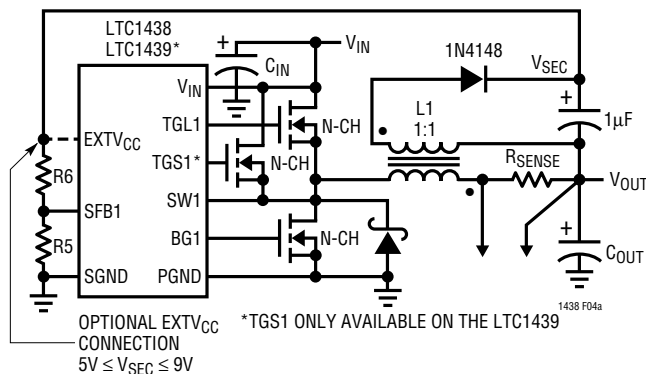
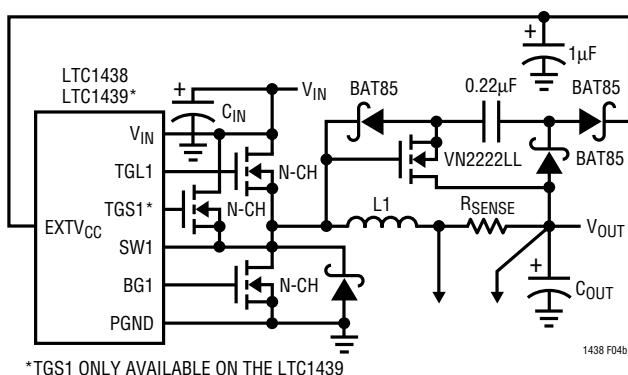

Figure 4a. Secondary Output Loop and $EXTV_{CC}$ Connection
Figure 4b. Capacitive Charge Pump for $EXTV_{CC}$
3. $EXTV_{CC}$ connected to an output-derived boost network. For 3.3V and other low voltage regulators, efficiency gains can still be realized by connecting $EXTV_{CC}$ to an output-derived voltage which has been boosted to greater than 4.8V. This can be done with either the inductive boost winding as shown in Figure 4a or the capacitive charge pump shown in Figure 4b. The charge pump has the advantage of simple magnetics.
The secondary output voltage is set by the turns ratio of the transformer in conjunction with a pair of external resistors returned to the SFB1 pin as shown in Figure 4a. The secondary regulated voltage V_{SEC} in Figure 4a is given by: